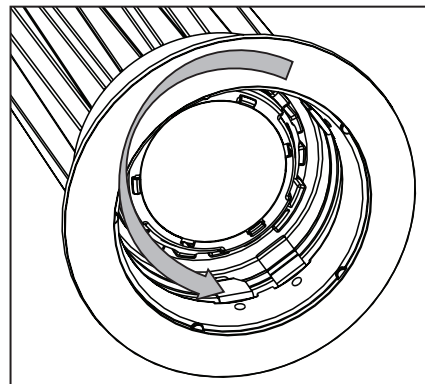

Figure 15
Step 2. Twist black optic holder counter-clockwise to remove optic and holder (Fig. 15).